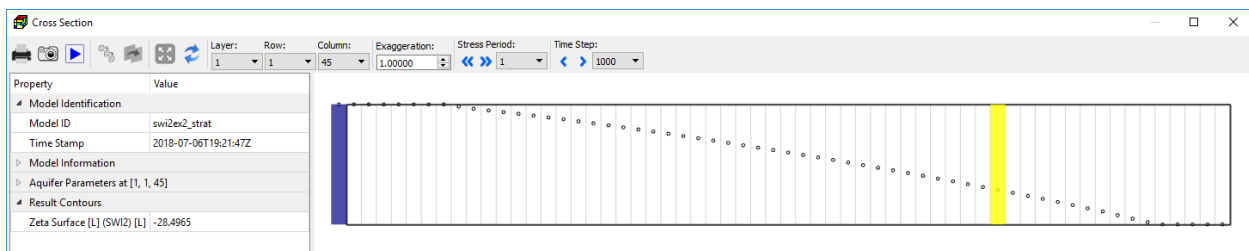

Figure 153. The position of zeta surface is marked with open circles on the cross section
- The calculated interface elevation (Zeta surface elevation) are stored in the output file “modflow.swi2zeta”. On the Map Viewer, the calculated zeta surface elevation may be used to create contour maps. On the cross-section window, the position of the zeta surface is marked with open circles (see Figure 153 for an example.) The display settings of the markers can be adjusted with the controls in *Zeta Marker on Cross Section* group of the Settings window.